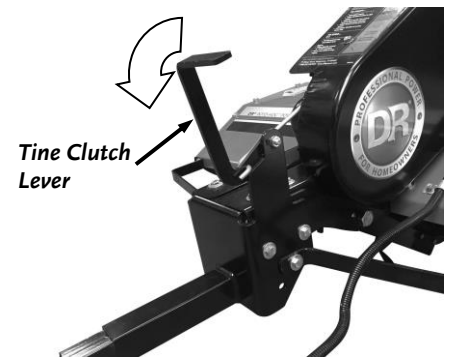

Figure 12
5. Pull the Tine Clutch Lever all the way forward until it locks into place to disengage the Tines. (**Figure 12**) A Safety Interlock Switch prevents the Engine from starting with the Tines engaged.